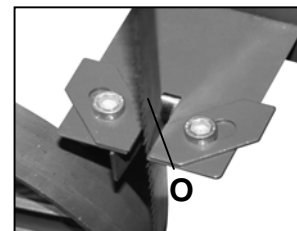

Figure 9
Mount the lower half of the blade on the bottom drive wheel, making sure the blade goes in the slot (O) on the lower guide body. (Figure 9)